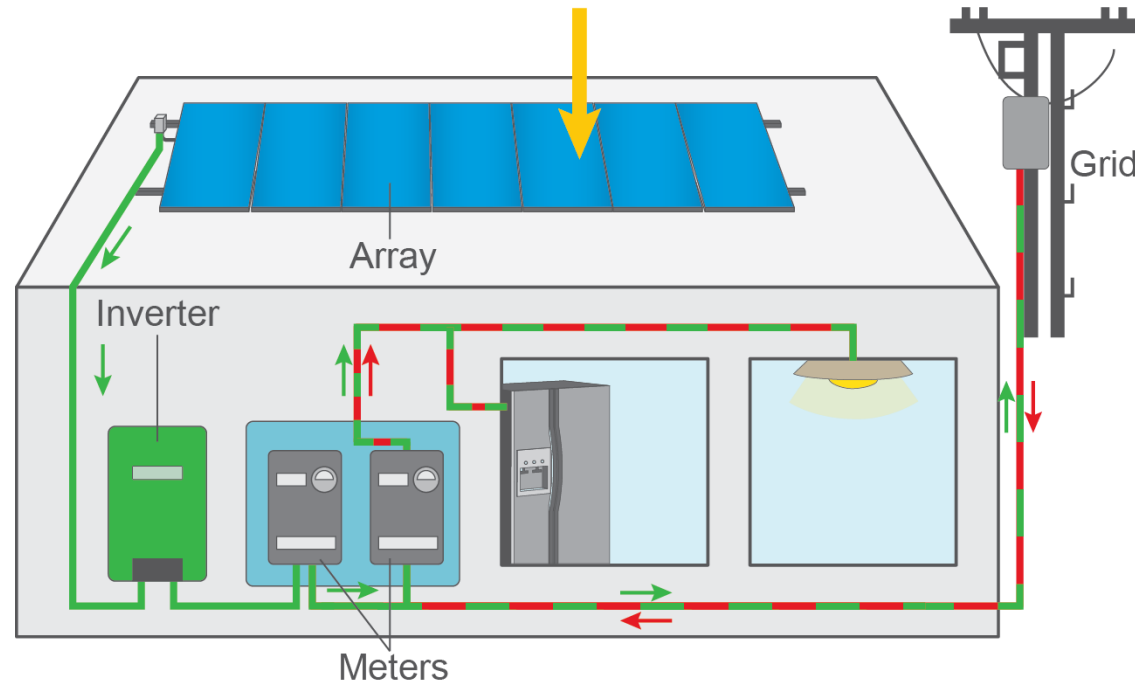
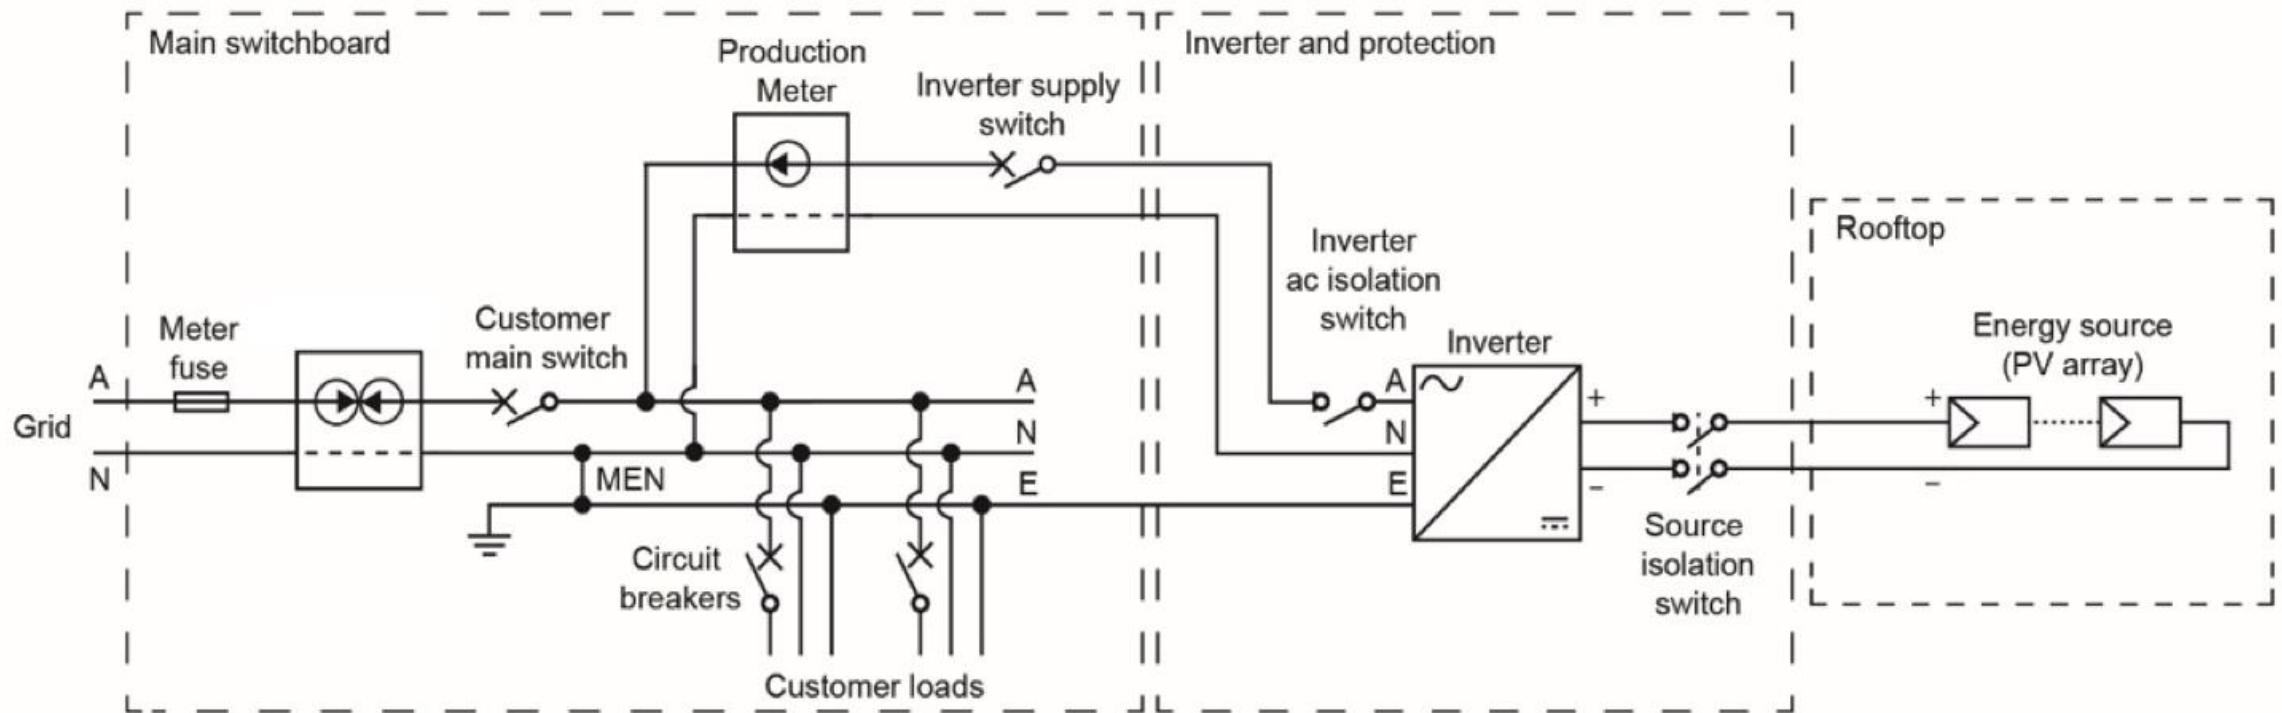

Figure 1: Grid Connected PV Systems
Figure 2: Wiring Schematic
- Figure 1 shows a typical interconnection of a grid connected PV system while Figures 2 / 3 are typical wiring schematics.